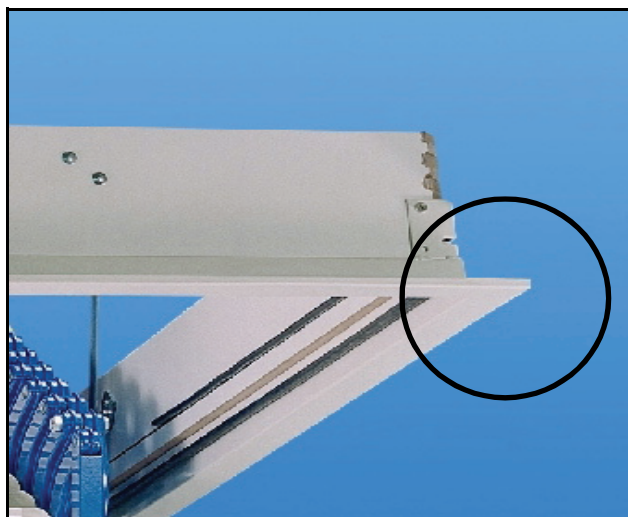

Figure 2
1. Mark out the rough opening size for your unit according to TABLE A. **Note that the finished metal trim extends about 2” beyond the rough opening when the unit is installed (Figure 2). Allow clearance for this on all four sides.**